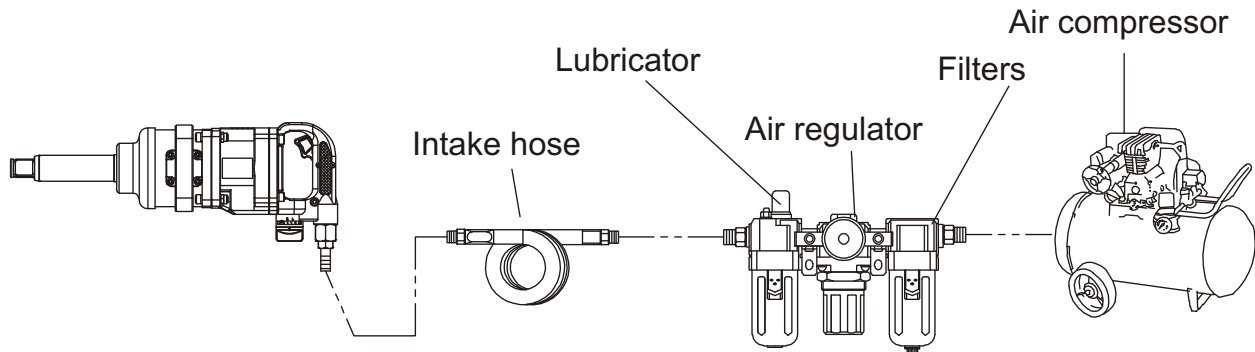

Figure 1
3. In order to keep normal operation, please install filters on air compressor, air regulator, lubricator. (See Figure 1)